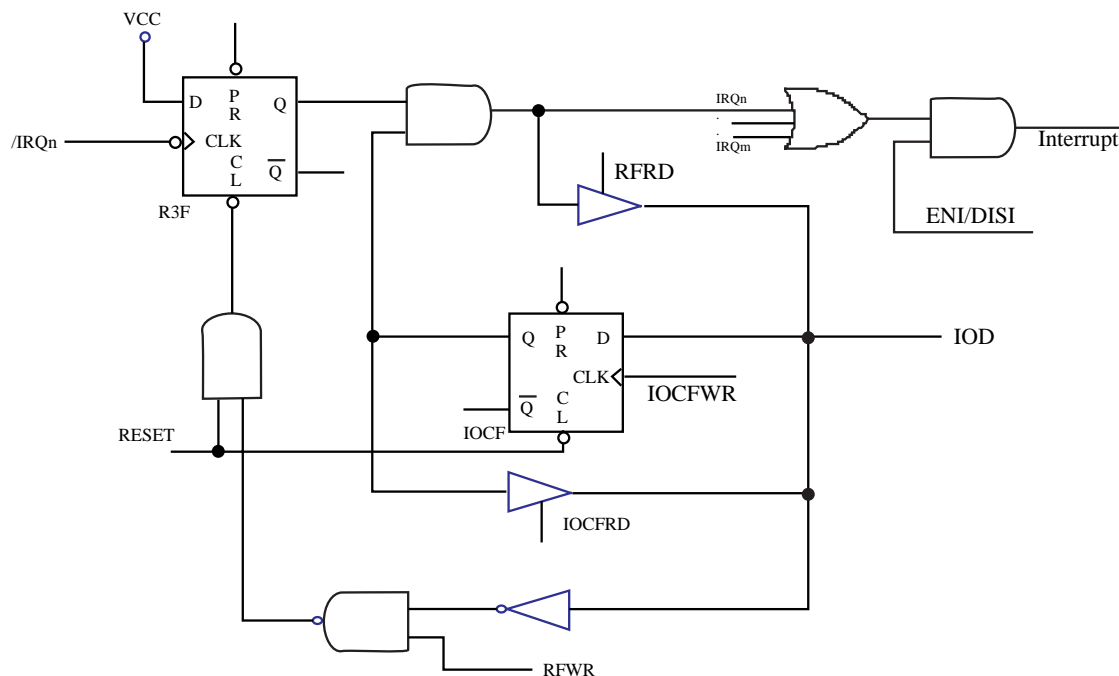

Fig. 9 Interrupt input circuit
- Global interrupt is enabled by ENI instruction and is disabled by DISI instruction. Refer to Fig. 9.
The flag in the Interrupt Status Register (R3F) is set regardless of the status of its mask bit or the execution of ENI instruction. Note that reading R3F will get the output of logic AND of R3F and IOCF. Refer to Fig. 9. The RETI instruction exits interrupt routine and enables the global interrupt (execution of ENI instruction).